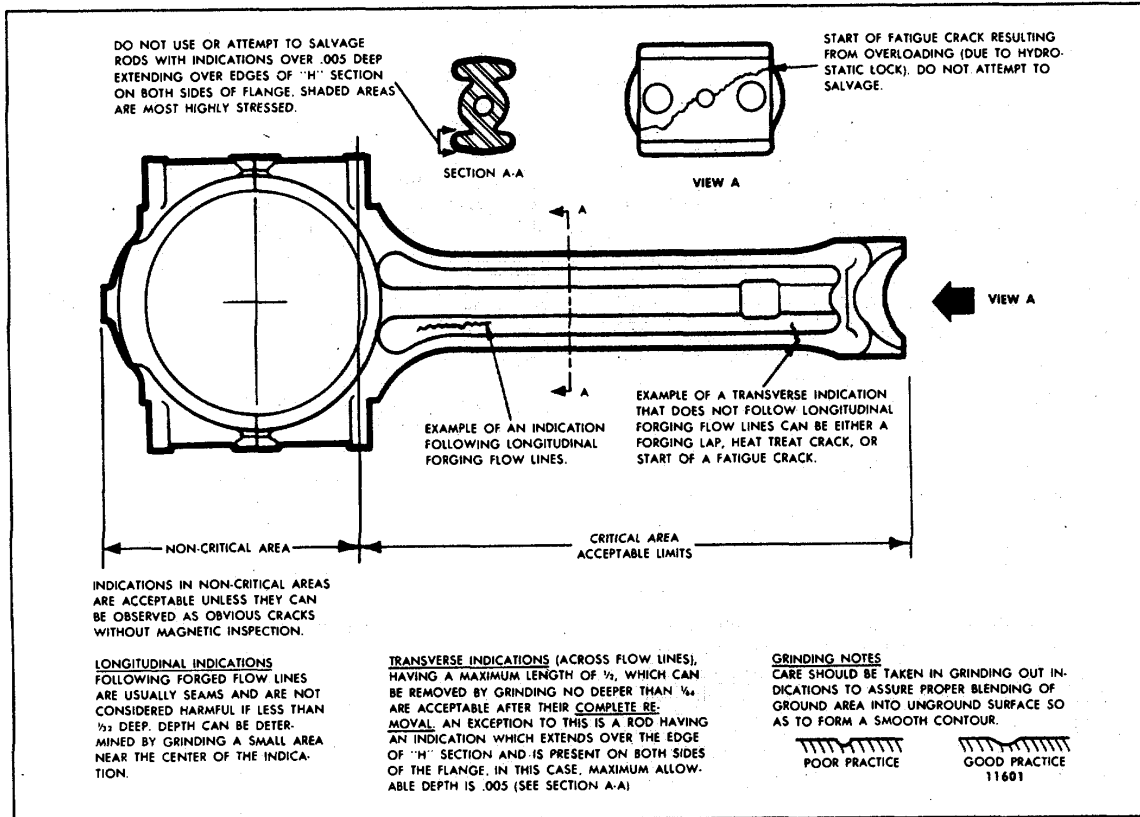

FIG. 15 Magnetic Particle Inspection Limits for Connecting Rod.
2. Determine bore diameter of the rod, using a dial bore gage and master ring as follows (Fig. 15).
- b. Measure diameter A and B as shown in Fig. 15.